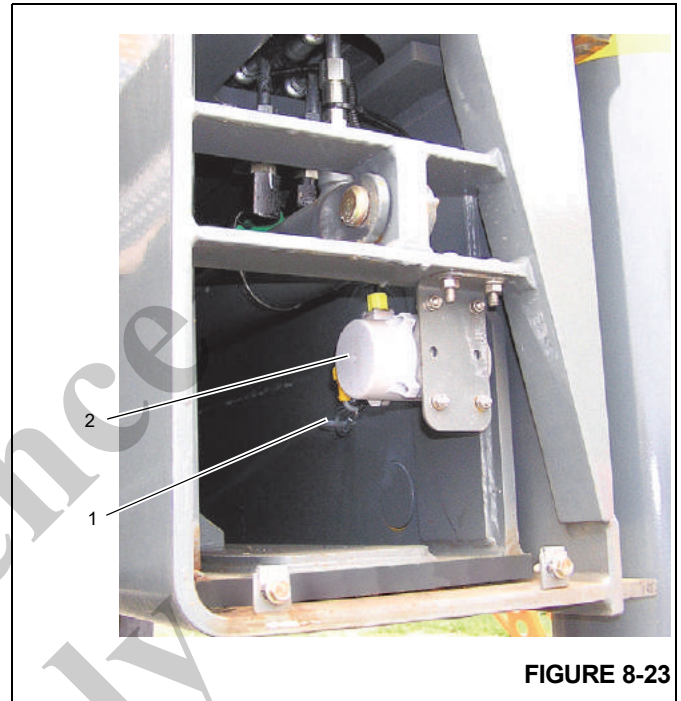

FIGURE 8-23
2. Remove the OMS string potentiometer spring clip (1) (Figure 8-23) from the attaching point on the outrigger beam.
5. Remove the OMS string potentiometer (2).
1. Install string potentiometer inside outrigger beam (Figure 8-23).
3. Attach the OMS string potentiometer spring clip (1) to the attaching point on the outrigger beam.